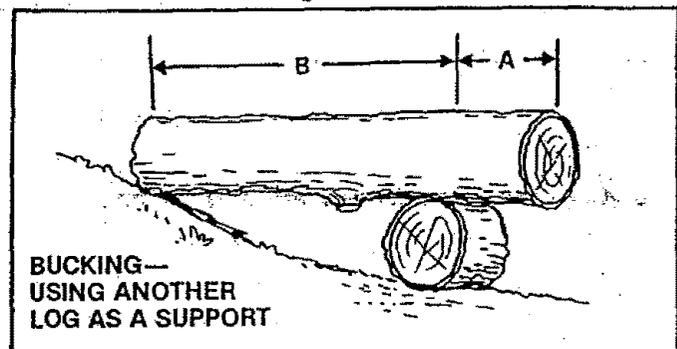

Figure 35
2. BUCKING — USING ANOTHER LOG AS A SUPPORT (Figure 35)